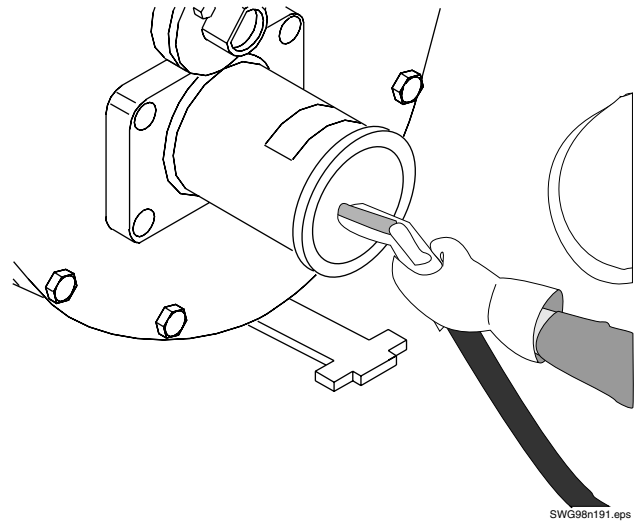

Figure 26
- Spray water into the opening, washing the end of the rubber ram, the material cylinder, the Rock Valve, and the outlet pipe (Figure 26). Continue washing until the water that leaves the valve is clear and clean. Visually inspect that no rocks, sand, or clumps of concrete remain. If there is still material, continue spraying water.